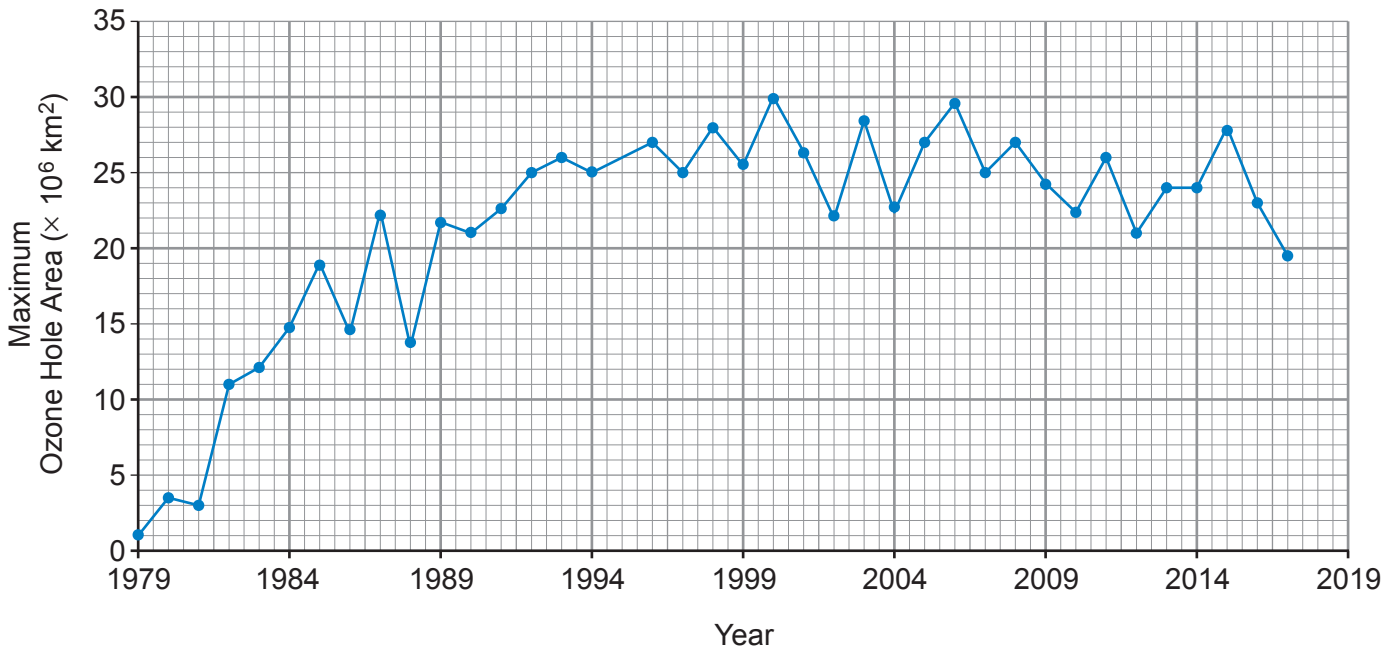

Figure 4: Maximum ozone hole area.
- 20 A graph showing how the maximum ozone hole area has changed since 1979 is shown in **Figure 4**.